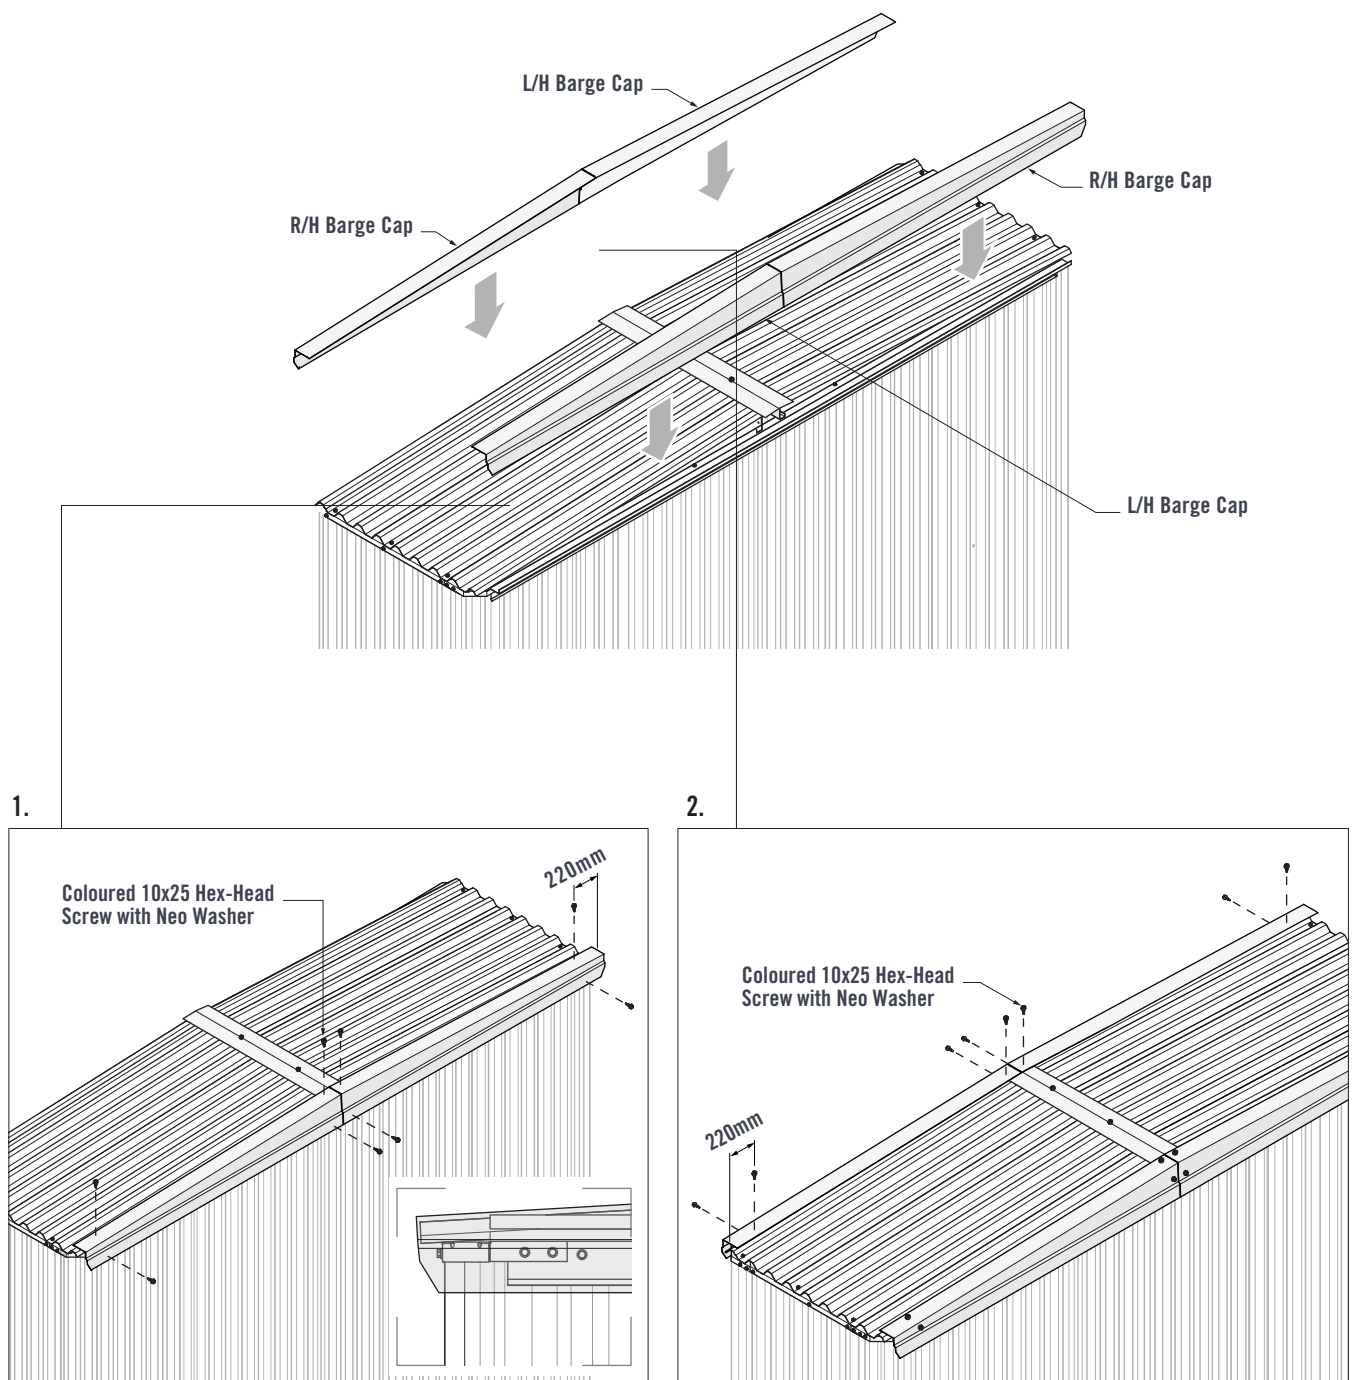

FIGURE 9.12
1. Place the L/H Barge Cap over the Roof Sheet at the front of the shed. The front face of the Barge Cap should fit up against the Barge Support. The ends of the Barge Cap Should align with the end of the roof sheet (Figure 9.12).
Fasten two coloured 10x25 Hex-Head Screws with Neo Washers through the front face of the Barge Cap into the Barge Support. Fasten two coloured 10x25 Hex-Head Screws with Neo Washers through the top of the Barge Cap and into the crests of the Roof Sheets. Install the R/H Barge Cap in the same manner on the front right side of the shed (Figure 9.12).
2. Place the remaining L/H and R/H Barge Caps over the Roof sheets at the rear of the shed. Align the ends of each Barge Cap with the ends of the Roof Sheets (Figure 9.12).
Fasten two coloured 10x25 Hex-Head Screws with Neo Washers through the front face of each Barge Cap into the rear Wall Channel. Fasten two coloured 10x25 Hex-Head Screws with Neo Washers through the top of each Barge Cap and into the crests of the Roof Sheet (Figure 9.12).